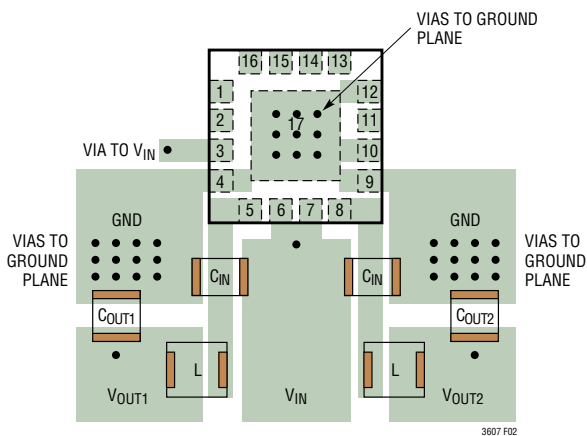

Figure 2. Example of Power Component Layout for QFN Package
When laying out the printed circuit board, the following checklist should be used to ensure proper operation of the LTC3607. These items are also illustrated graphically in the layout diagram of Figure 2. Check the following in your layout:
- Flood all unused areas on all layers with copper. Flooding with copper will reduce the temperature rise of power components. These copper areas should be connected to V_{IN} or GND. Refer to Figures 2 and 3 for board layout examples.